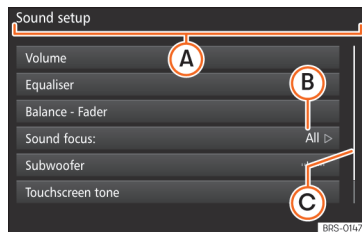

Fig. 175 View of some of the function buttons on the screen.
Function buttons start functions or open sub-menus. The currently selected menu is displayed in the title bar » **Fig. 175** (A) of the submenu.